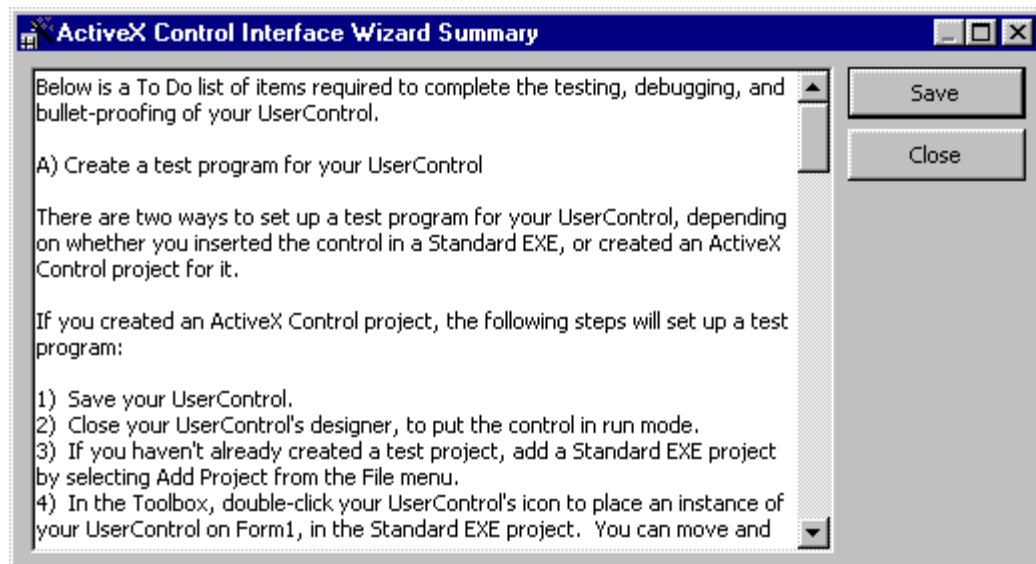

Figure 15. The Wizard makes some good suggestions. Follow them!
7. **Finish up:** Once you've made all your changes, Visual Basic writes the modified code to your module. Before you get a chance to dig in, the wizard displays information about what you should do next. It's tempting to disregard this page, but don't. Figure 15 shows the form containing the suggestions.